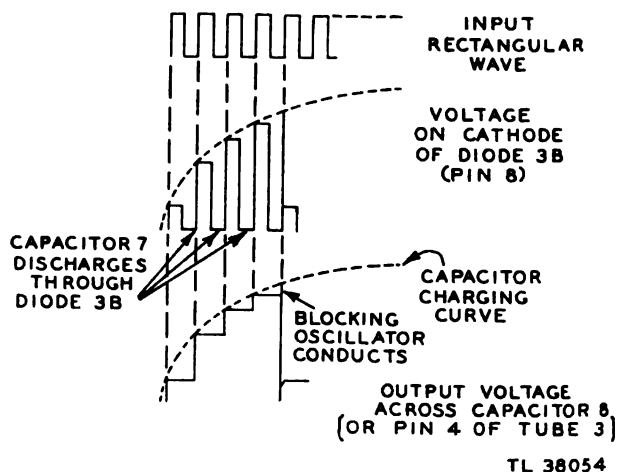

Figure 46. Counter circuit, waveform development.
a. The two diodes in tube 3, capacitor 7, and capacitor 8 are so arranged that when the high positive output of the square wave generator, (when tube 2B is not conducting) is applied to the input of the counter circuit, the two capacitors and the diode 3A (pins 3 and 4 of tube 3) charge in series. The essential fact to remember in understanding the action here is that in such a series circuit the same current will flow in all parts, the same charge will be left on each capacitor, but the voltage across the different capacitors will depend on their capacity. This can be compared to the action in a circuit with several resistors in series. The same current flows in all resistors, but the voltage across each depends directly upon its resistance. Thus, if one resistor is of 15,000 ohms and another 1,000 ohms, the voltage across the smaller resistor will be  $\frac{1}{16}$  of the total across both, while  $\frac{15}{16}$  will be across the large. However, with capacitors in series the voltage drop across each capacitor will be *inversely* proportional to its capacity. Capacitor 8 in this case is about 15 times larger than capacitor 7; but capacitor 8 will charge to only  $\frac{1}{16}$  of the applied voltage, while the smaller capacitor (7) charges to  $\frac{15}{16}$  of the applied voltage.
b. When the positive half cycle of the rectangular input wave occurs, capacitor 8 charges to about  $\frac{1}{16}$  of this voltage and capacitor 7 to  $\frac{15}{16}$ . This voltage represents the first step (figs. 46 and 131E). On the next half cycle, when 2B conducts and the voltages of the rectangular wave drops sharply, the lower plate of capacitor 7 and the cathode (pin 8) of diode 3B become negative with respect to ground; and capacitor 7 discharges through the diode the charge it accumulated during the positive half-cycle. Capacitor 8, however, has no discharge path and retains its charge.
again. Figure 46 illustrates that the outline of the steps resembles the regular charging curve for a capacitor.